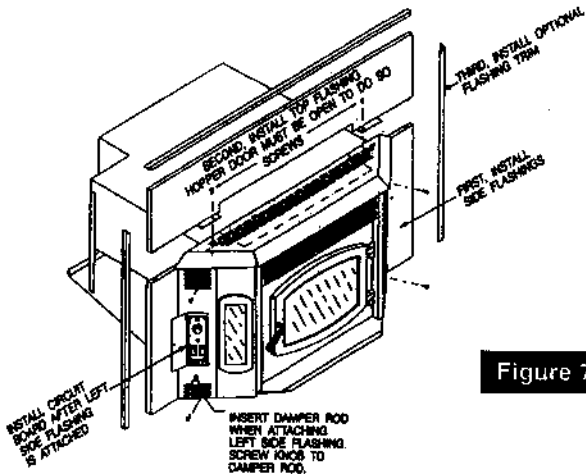

Figure 7
- Attach flashing (see figure 7), route power cord out the side nearest a 120V receptacle. Side in insert. Seal is not necessary. Do not restrict air to or from vents in flashing.